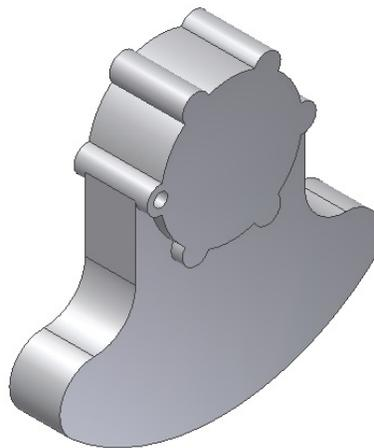

Figure 6-136 Model after creating the hole
- c. Create one of the holes on the front face of the second feature and then create a circular pattern of this hole, refer to Figures 6-136 and 6-137.
4. Modify the value of the diameter of the hole in the preview window to **6**. Choose **OK** to exit the dialog box. The model after creating one of the holes is shown in Figure 6-136.